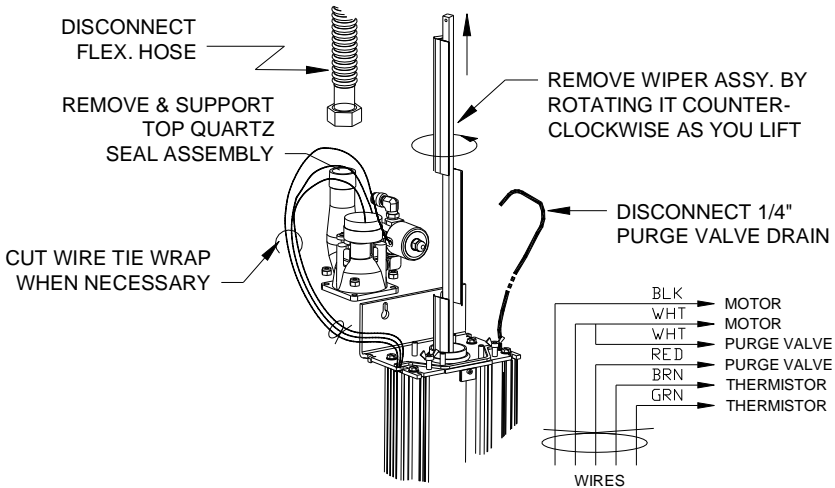

Figure 4C
**Step 5:** Remove the top quartz seal assembly (FIG. 4C) by lifting it straight up. The wires are bundled together using a tie wrap. If you require more room to lift the top quartz seal assembly, cut the tie wrap to give you more freedom to lift the assembly over the wiper shaft.
**Step 6:** Remove the wiper assembly (12) by carefully lifting it up and out of the quartz sleeve. Rotating it as you lift will help. **Caution: the wiper blades are sharp, handle them with care.**